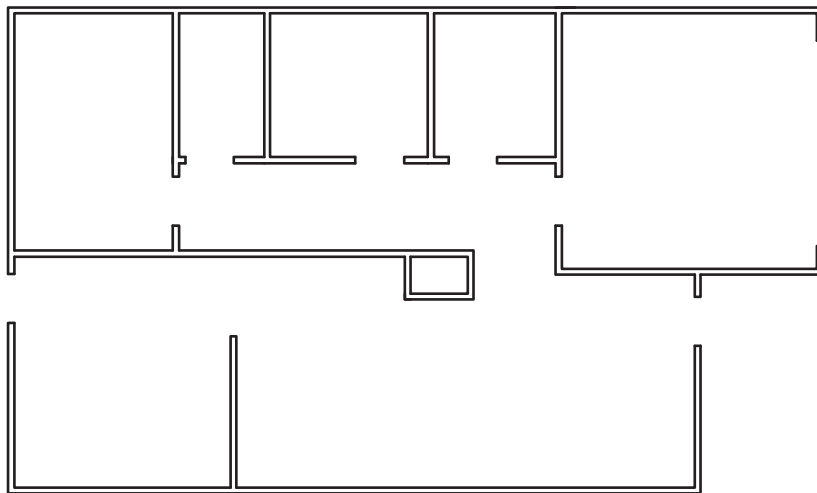

Fig. 18-16
3. Create the house shown in Fig. 18-16 on a  $100' \times 35'$  lot.